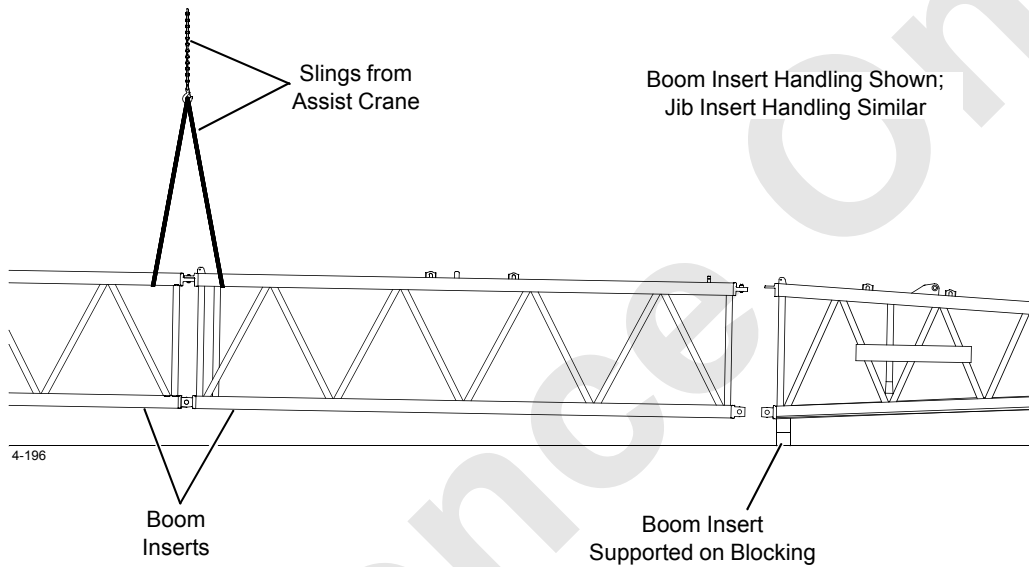

FIGURE 4-38
- Do not cantilever more than 40 ft (12,2 m) of insert from end of inserts being lifted. Attach nylon slings to both inserts as shown in Figure 4-38.